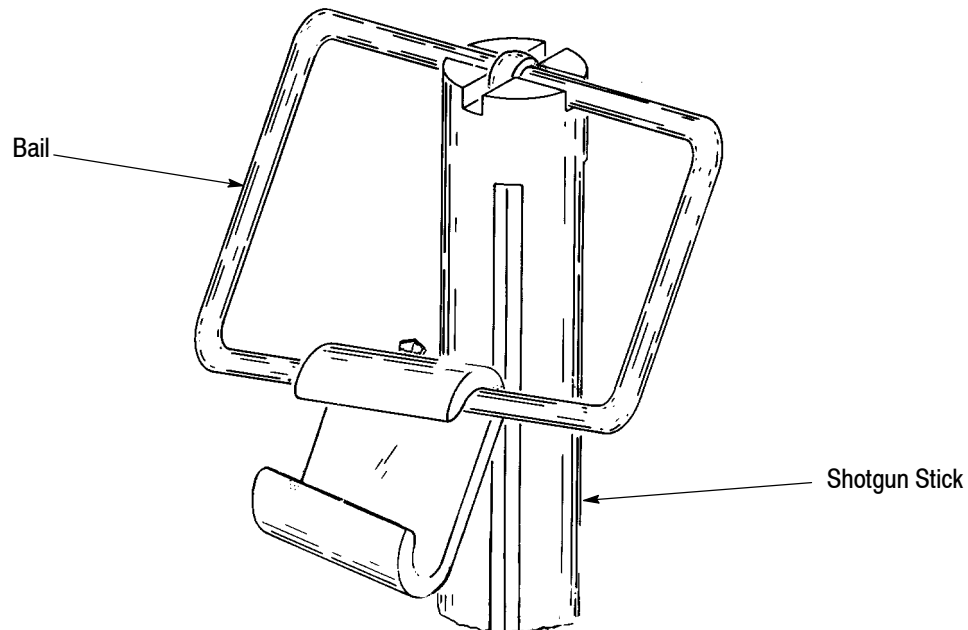

Figure 26
2. Pick up bail of stirrup in the shotgun stick (Figure 26).